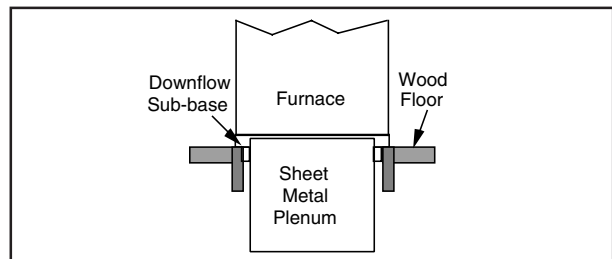

Figure 6. Downflow Sub-Base Dimensions
2. Place sub-base for combustible floors over the hole with its duct collar extended downward. Attach the supply air plenum to the base in a manner which will assure 1" clearance to the flooring or other combustible construction. Place furnace on the combustible base as shown in Figure 6.